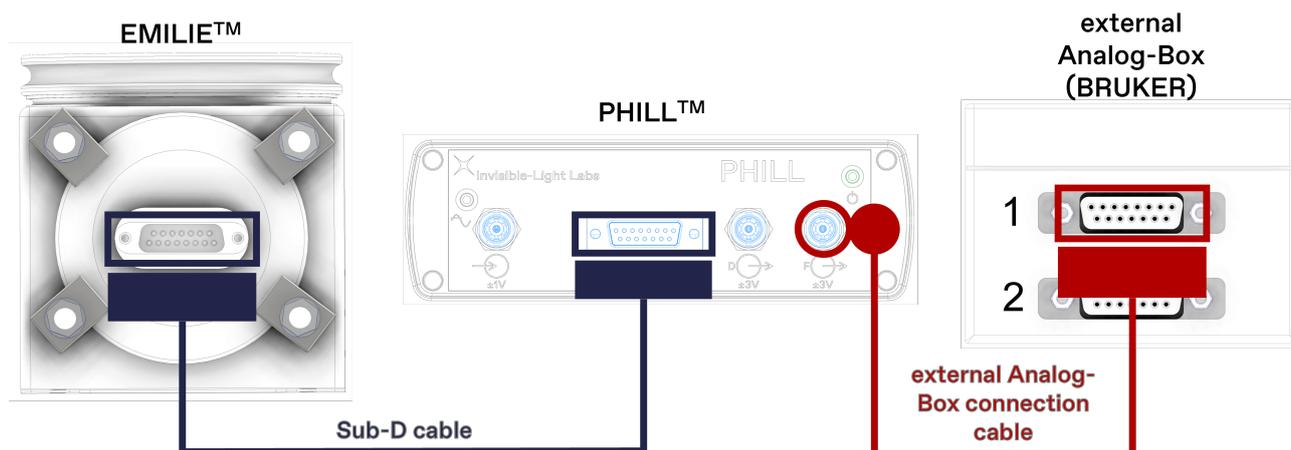

Figure 29: Electrical connection between EMILIE™, PHILL™, and the Bruker ASM external Analog-Box.
3. Connect the PHILL™ "Frequency Output" port to the ASM external Analog-Box of the FTIR spectrometer using the cable that is supplied by Bruker (see Figure 29). Take note of the selected channel on the ASM external Analog-Box.
5. Plug the sub-D cable into EMILIE™ and fix it via the screws as shown in Figure 29.